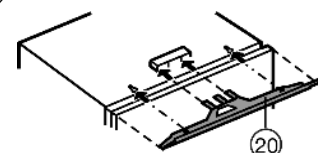

Fig. 12
- Fit the equaliser trim Fig. 12 (20) centrally onto the appliance: slide into holding fixture and engage in keyholes.